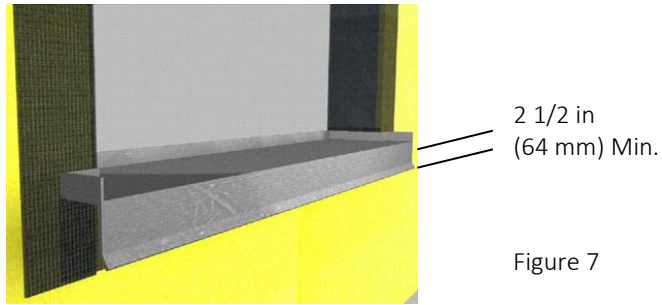

Figure 7
- a. Install a watertight pan flashing at all sill locations – Figure 7.
- c. The flashing shall extend a minimum of 2 1/2 in (64 mm) down over the face of the Outsulation Masonry Veneer System – Figure 7.